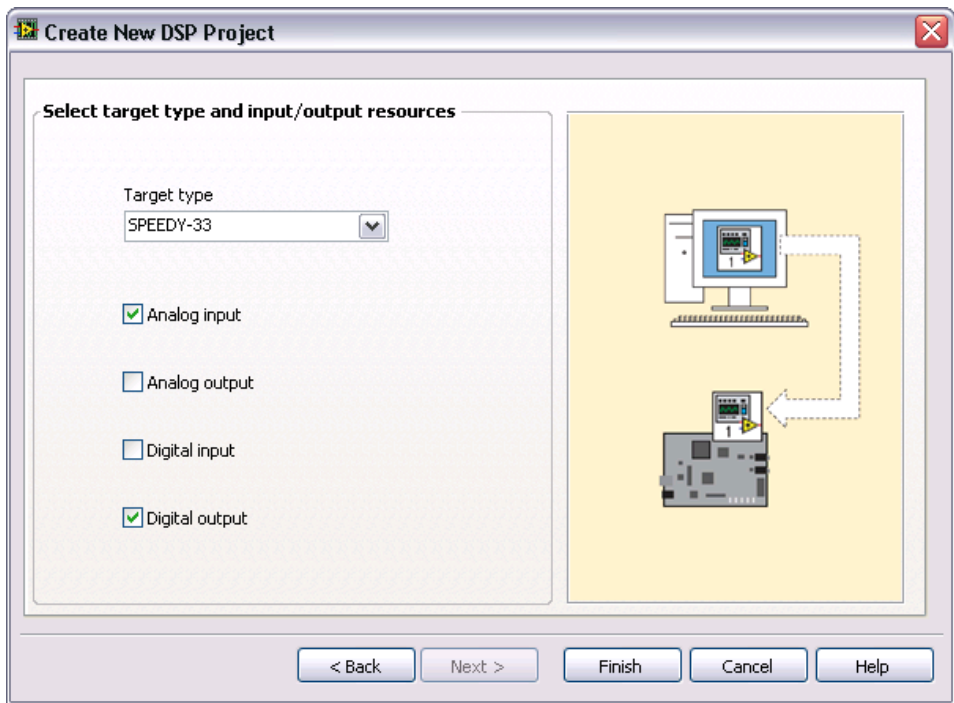

Figure 8. Specifying the DSP Target Hardware and Resources
6. Verify that only the **Analog Input** and **Digital Output** checkboxes have checkmarks. By default, the wizard adds all the resources available to the target. You can remove the checkmarks from any of the input/output resources checkboxes that you do not need, as shown in Figure 8.